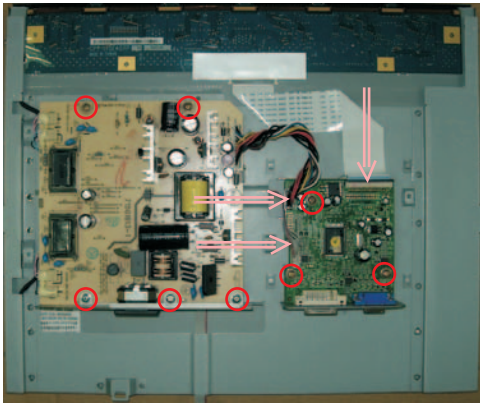

Fig.13
- Remove the eight screws as shown in Fig.13
- Disconnect the three cables as shown in Fig.13